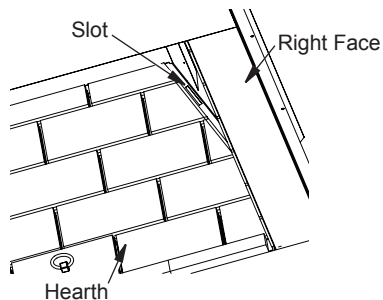

Figure 27 - Slots for Firebrick Walls
5. Install the left and right firebrick walls. There is a bracket with 2 tabs on the bottom of each firebrick wall. Angle the wall into the fireplace opening and into the slots on the side of the hearth (Figure 27), then tilt the top of the panel toward the firebox surround.